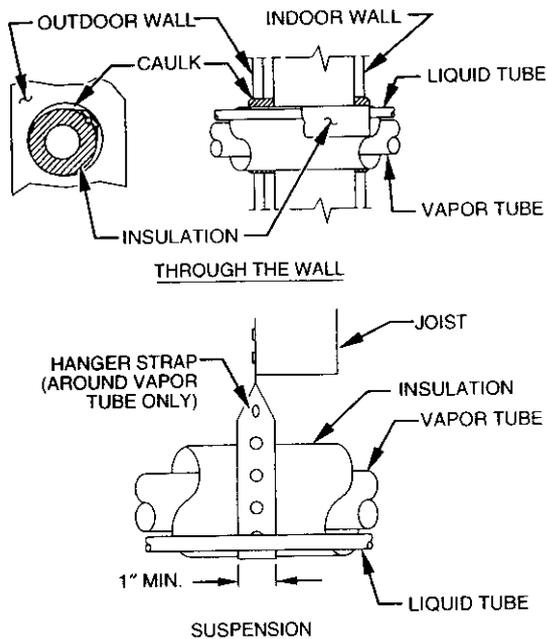

Fig. 3—Piping Installation
5. When passing refrigerant tubes through the wall, seal the opening with RTV or other pliable silicon-based caulk. (See Fig. 3.)
7. Do not suspend refrigerant tubing from joists and studs with a rigid wire or strap which comes in direct contact with the tubing. (See Fig. 3.)
9. When necessary, use hanger straps which are 1 in. wide and conform to the shape of the tubing insulation. (See Fig. 3.)